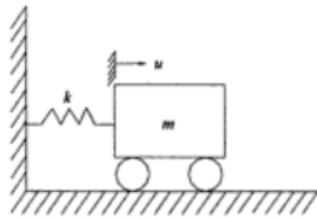

Fig. 5.1
5. Derive and explain the differential equation for a body vibrating along horizontal axis and for a body moving vertically as shown in Fig 5.1 and 5.2
5. A massless cantilever beam of length L supports two lumped masses $m/2$ and $m/4$ at the midpoint and free end as shown in Fig. 5.1a. The flexural rigidity of the uniform beam is EI . With the four DOFs chosen as shown in Fig.5.1 b and the applied forces $p_1(t)$ and $p_2(t)$, formulate the equations of motion of the system. Axial and shear deformations in the beam are neglected.
Fig 5.1 a
Fig 5.1 b